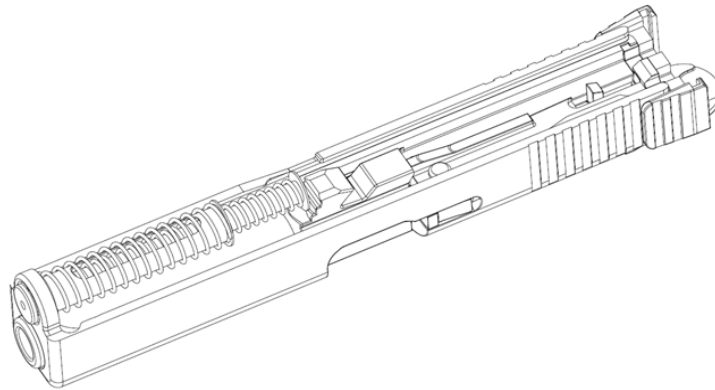

Figure 34: RDC Assembly into the Slide completed.
8. Insert the Recoil Spring Assembly and Barrel into position to complete the RDC Assembly (Figure 34).